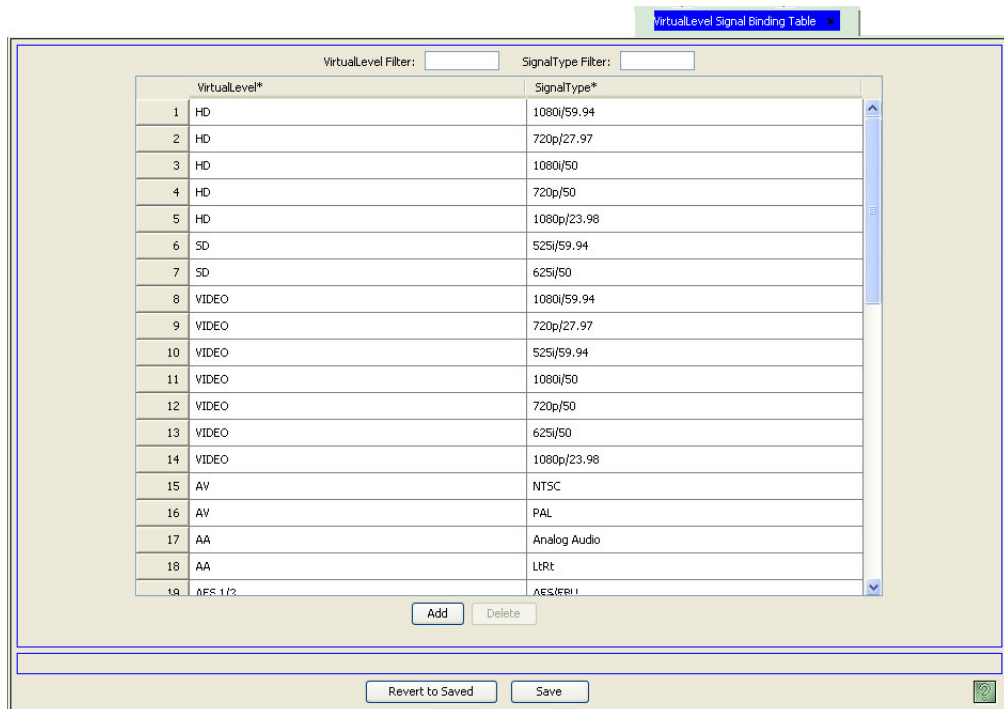

Figure 8-37. Virtual Level Signal Binding Table
- 2 From the Navigation area, select the 'Views' pane and then 'Signal Types'. The 'Signal Types' table appears, as shown in Figure 8-37.